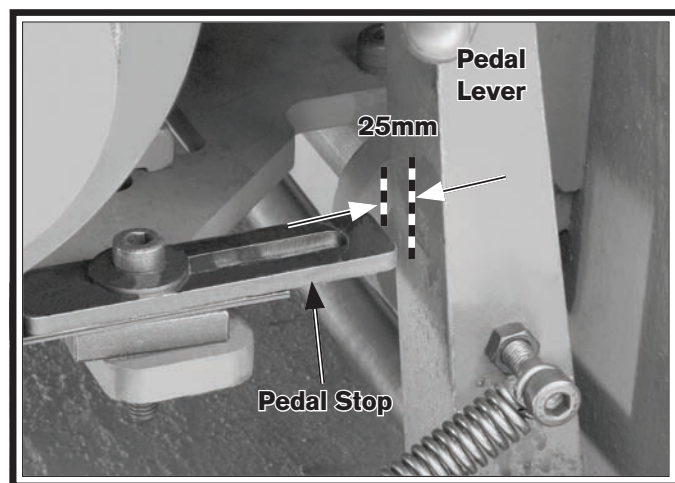

Figure 140. Pedal travel adjustment.
7. Firmly push the pedal lever (**Figure 140**) to the right until it stops and the brake band is fully clamped around the brake hub.
8. Tap the pedal stop into position so there is approximately a 25mm gap between the pedal lever and the stop (see **Figure 140**).